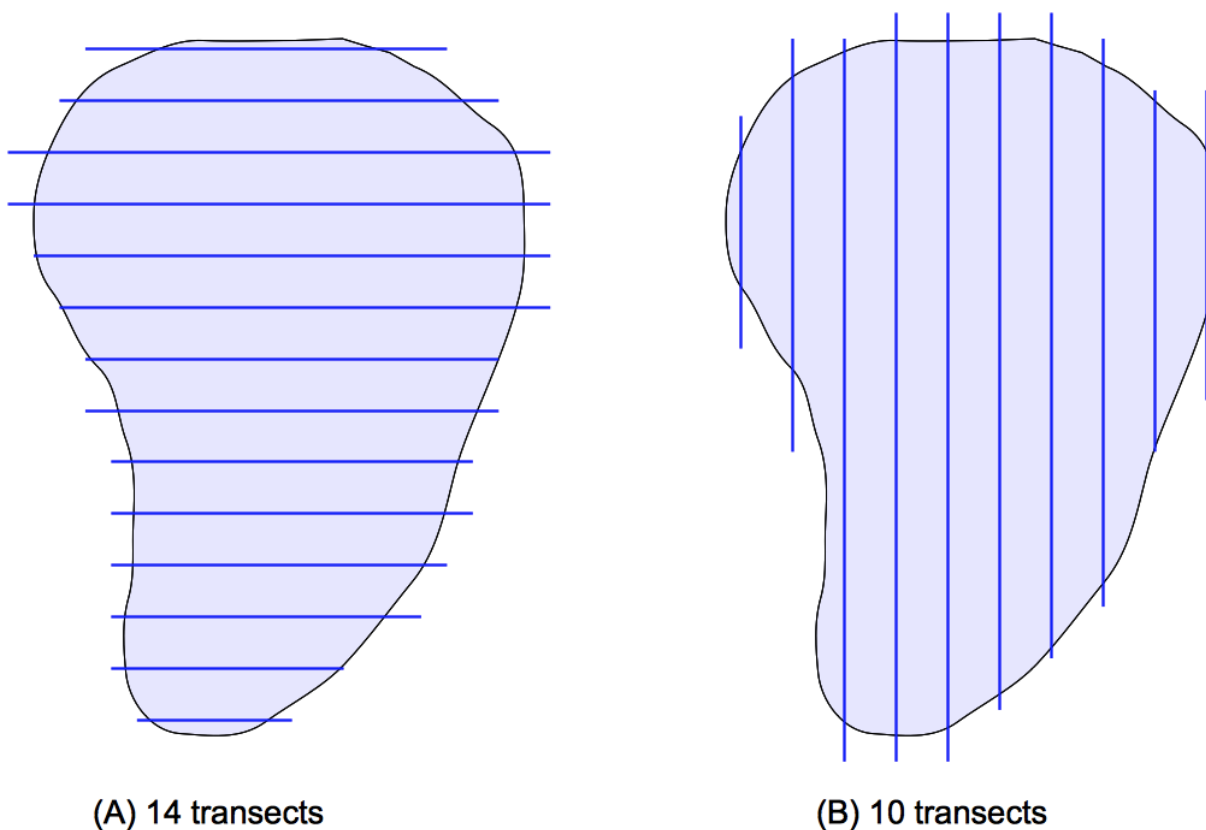

Figure 6: Maximising number of samples through transect orientation.
- Intensity: the amount of work that goes into a sample count – refers to more transects and/or a greater percentage of area sampled. Note that those are NOT necessarily the same thing (Figure 6)!
- **Maximise the number of samples by drawing them perpendicular to the long axis of the survey area:** this has a big effect on a long narrow survey zone (Figure 6).